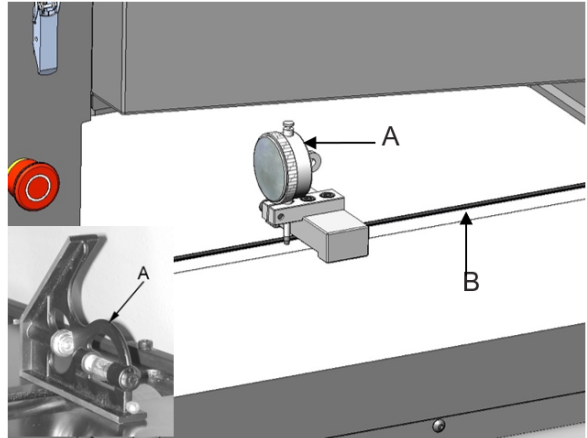

FIGURE 23: TABLE ROLLER ADJUSTMENT
1. Lay a gauge or straight edge (Fig. 23, A) on the table across the roller (Fig. 23, B).